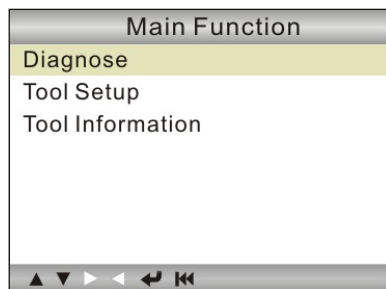
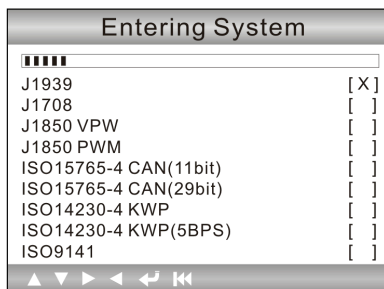

Figure 4-1
Figure 5-1
6. After finishing, the system will enter the main menu interface, as shown in Figure 4-1.
In Figure 4-1, press [↩] to scan the protocols of heavy-duty trucks and OBDII vehicles, a screen similar to figure 5-1 will appear: